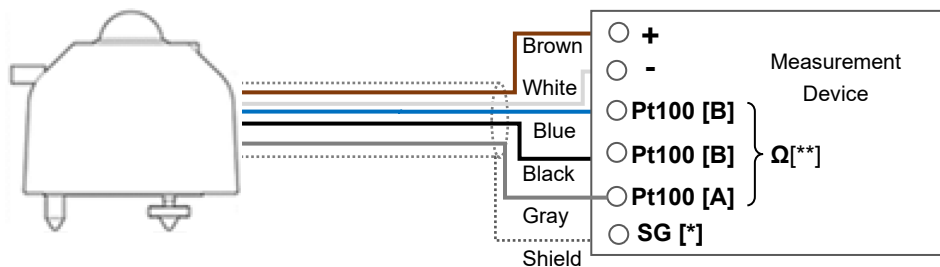

Figure 5-5. How to connect MS-80 (from S/N: S1904615)
- A. MS-80 (from S/N: S19046151, temperature sensor 3W Pt100 class A). Connect the 5 wires with corresponding color to the input terminals of the voltmeter or data logger (figure 5-5).